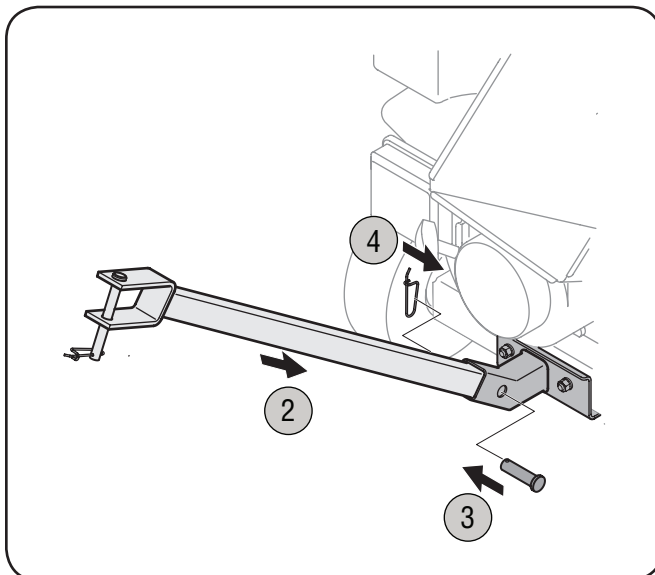

Figure 3-4
4. Fasten with the spring pin to secure. See Figure 3-4.